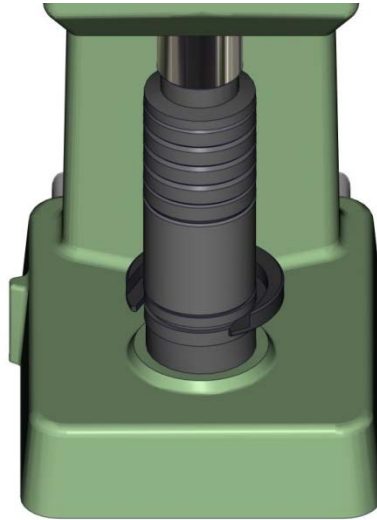

Figure 12: Compressing five (5) 10mm calibration blocks and one (1) 50mm calibration block, pedestal and collar onto the pedestal support
17. Repeat Steps 13 through 16 until all five of the 10mm calibration blocks are completed as shown in Figure 12.